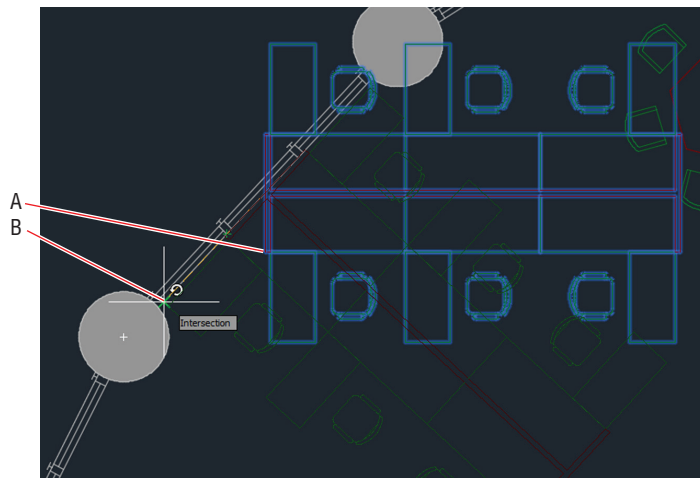

FIGURE 4.17 Rotating with the Reference option
- Click endpoint A as shown in Figure 4.17 to specify the second point of the reference angle and point B to specify the second point of the new angle. The furniture group rotates so that it is parallel and centered on the window wall.